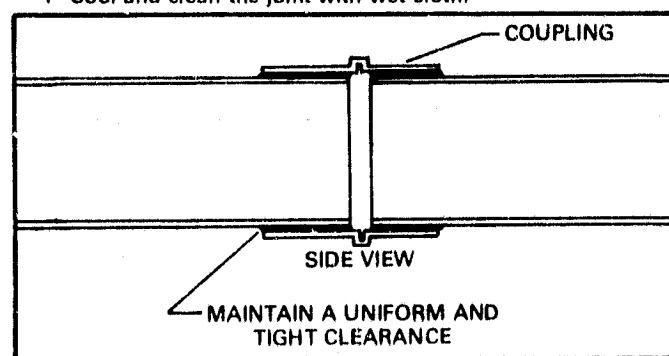

FIGURE 13
- c - Fit tubing into coupling maintaining a tight and proper clearance. See Figure 13.